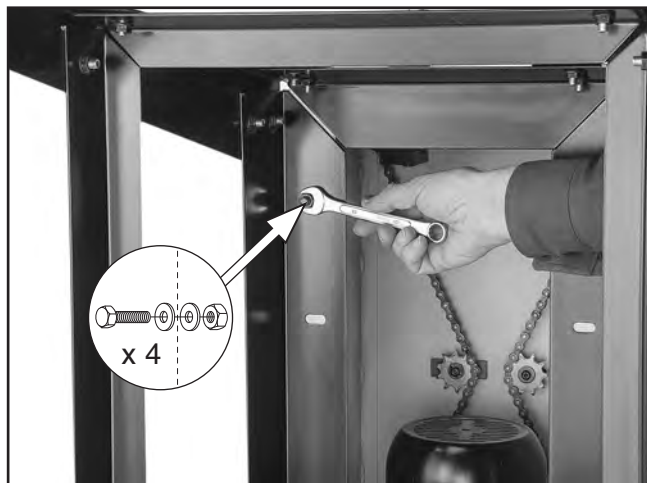

Figure 10. Mounting sander to stand.
14. Secure stand to sander with (4) M8-1.25 x 20 hex bolts, (8) 8mm flat washers, and (4) M8-1.25 hex nuts (see **Figure 10**).